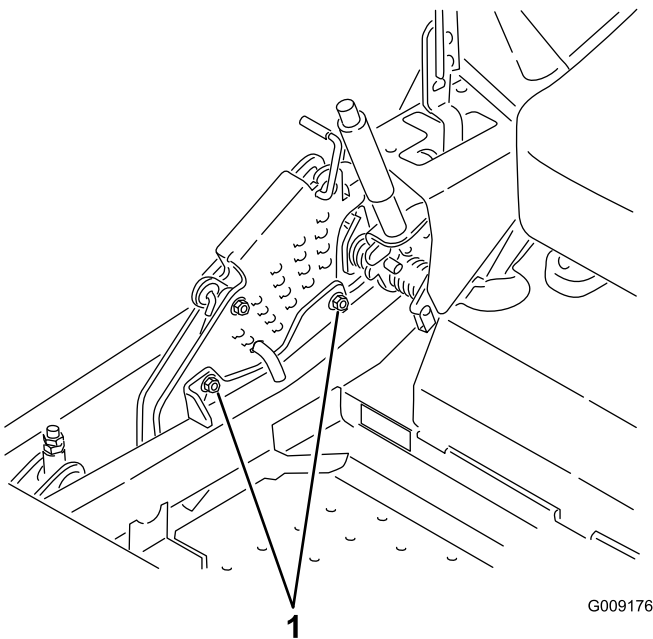

Figure 94
12. To adjust the single point system, loosen the two bolts at the bottom of the height of cut plate. Refer to Figure 94.
14. Tighten the two bolts at the bottom of the height of cut plate (Figure 94). Torque to 27-33 ft-lb (37-45 N-m).